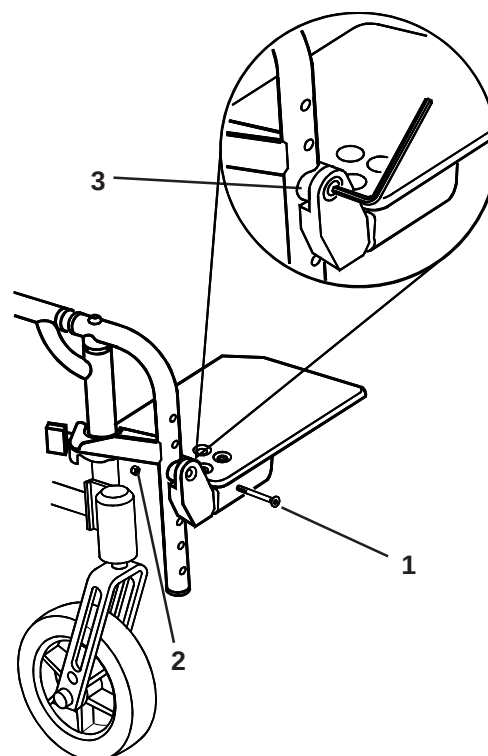

Fig. 32
To adjust the height of this type of footplate (Fig. 32) unscrew and remove the retaining screw (1), nut (2) and saddle washer (3) as shown, move the footplate to the desired height, and replace the retaining screw (1), saddle washer (3) and nut (2) and tighten to 8-10 Nm torque. Use a 4mm Allen key and 10mm A/F spanner.